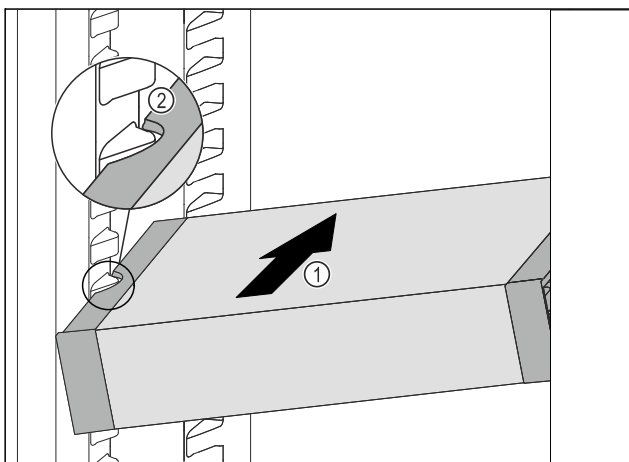

Fig. 90
- ▶ Insert the VarioSafe into the refrigerator compartment at an angle *Fig. 90 (1)* until the recesses in the side *Fig. 90 (2)* of the VarioSafe are at the level of the support rib in the refrigerator compartment.